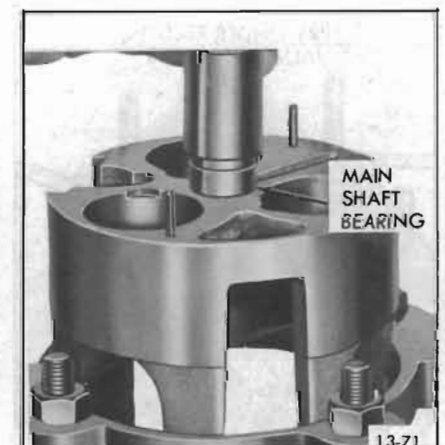

Figure 13-71—Installing Main Shaft Bearing
**NOTE:** Examine front and rear cylinder halves, front and rear main shaft bearings, and replace as necessary. If bearings are to be replaced, drive out of cylinder halves with suitable socket or punch. Install new bearing (lettering on bearing edge facing outward) using Bearing Installer (J-9432). See Figure 13-71.